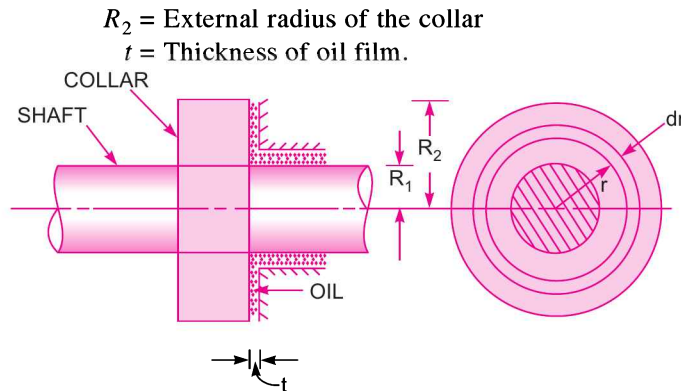

Fig. 9.12 Collar bearing.
**9.5.3 Viscous Resistance of Collar Bearing.** Fig. 9.12 shows the collar bearing, where the face of the collar is separated from bearing surface by an oil film of uniform thickness.